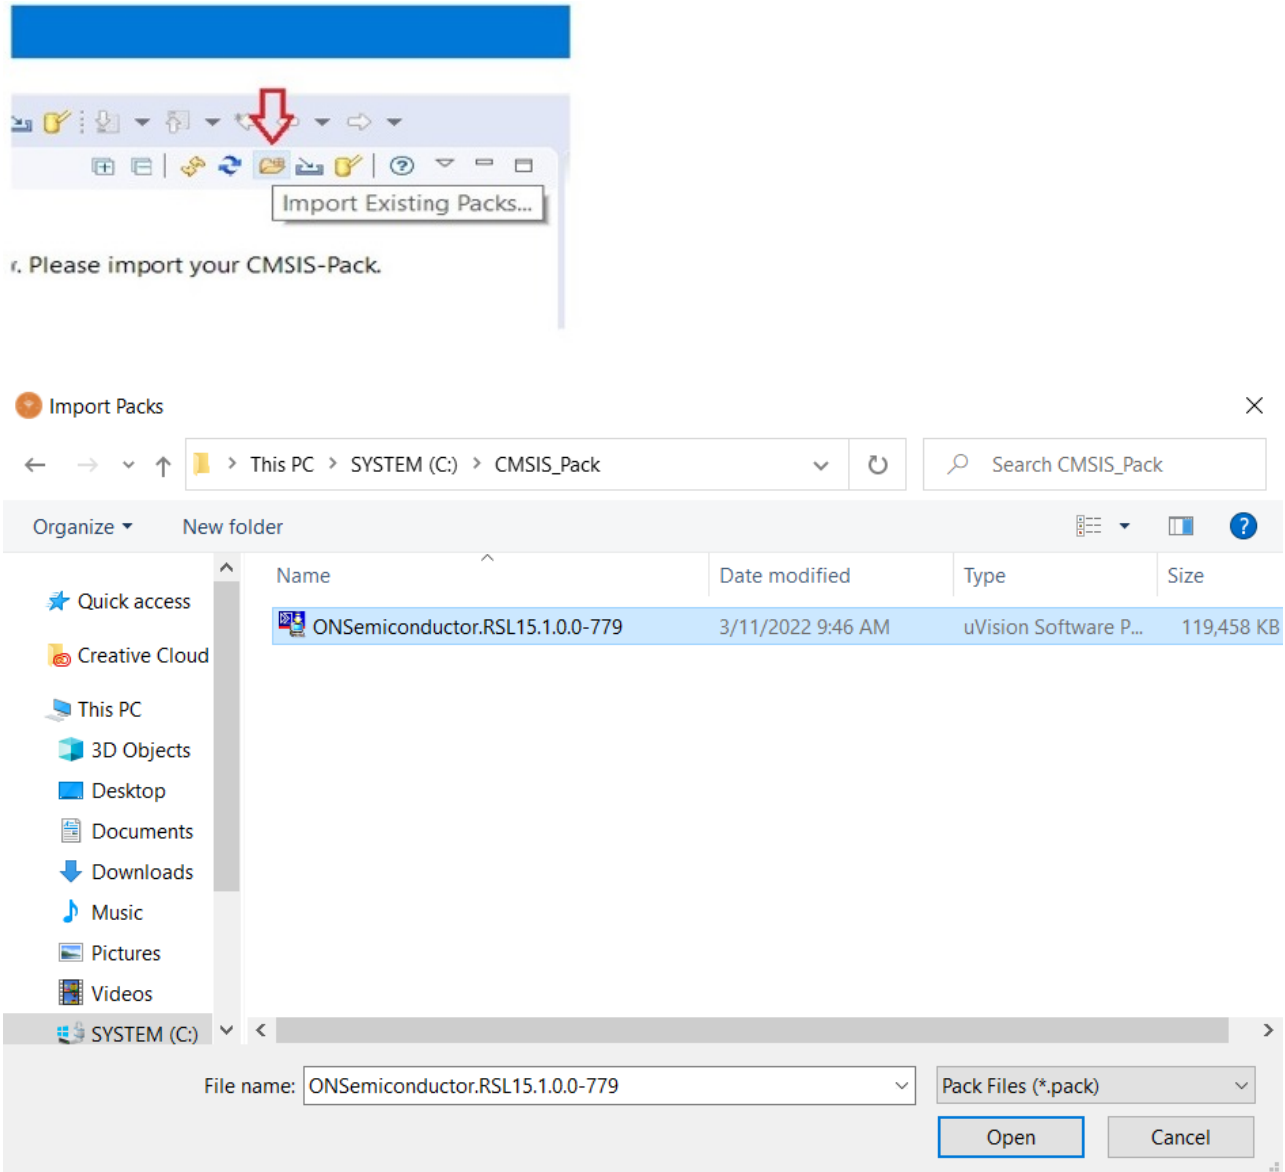

Figure 4. Installing the RSL15 CMSIS-Pack
- Click the **Import Existing Packs** icon, select your pack file (*ONSemiconductor.RSL15.<version>.pack*), where **<version>** is a number such as *1.0.0-464*, and click **Open**. (See the "Installing the RSL15 CMSIS-Pack" figure (Figure 4).)